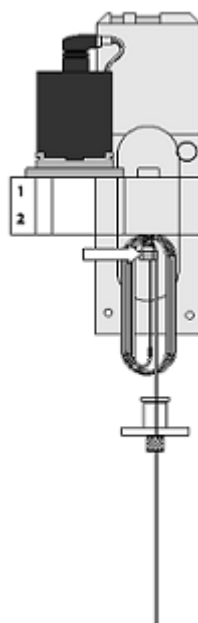

Fig. 72: Tightening the stainless steel holding loop
7. Unscrew the holding loop from the DLW manifold and pull out the holding loop (→ Fig. 72, page 134).